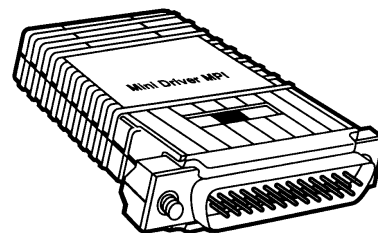

Figure 11-14 RS-232 Short-haul Line Driver
An RS-232 short-haul modem or Line Driver is needed to boost transmission for PCs located more than 50 feet from the Strata DK System. A suitable Line Driver is made by Black Box® Corporation at (724) 746-5500, Model ME764A-MSP (male) or ME764A-FSP (female). See Figure 11-14.